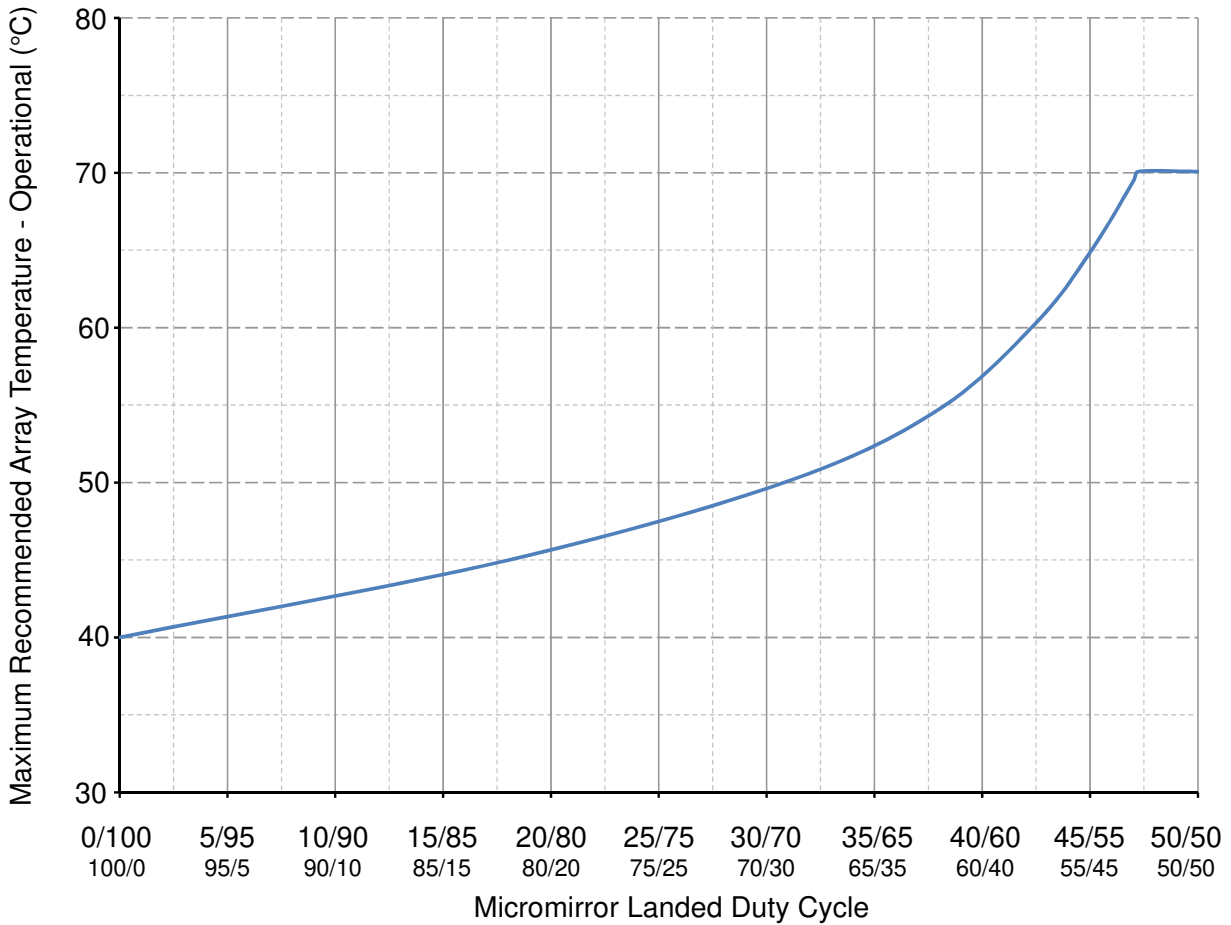

Figure 6-1. Recommended Maximum DMD Temperature—Derating Curve
- (13) Long-term is defined as the average over the usable life.
- (14) Per 図 6-1, the maximum operational array temperature should be derated based on the micromirror landed duty cycle that the DMD experiences in the end application. See セクション 7.7.
- (15) Short-term is the total cumulative time over the useful life of the device.